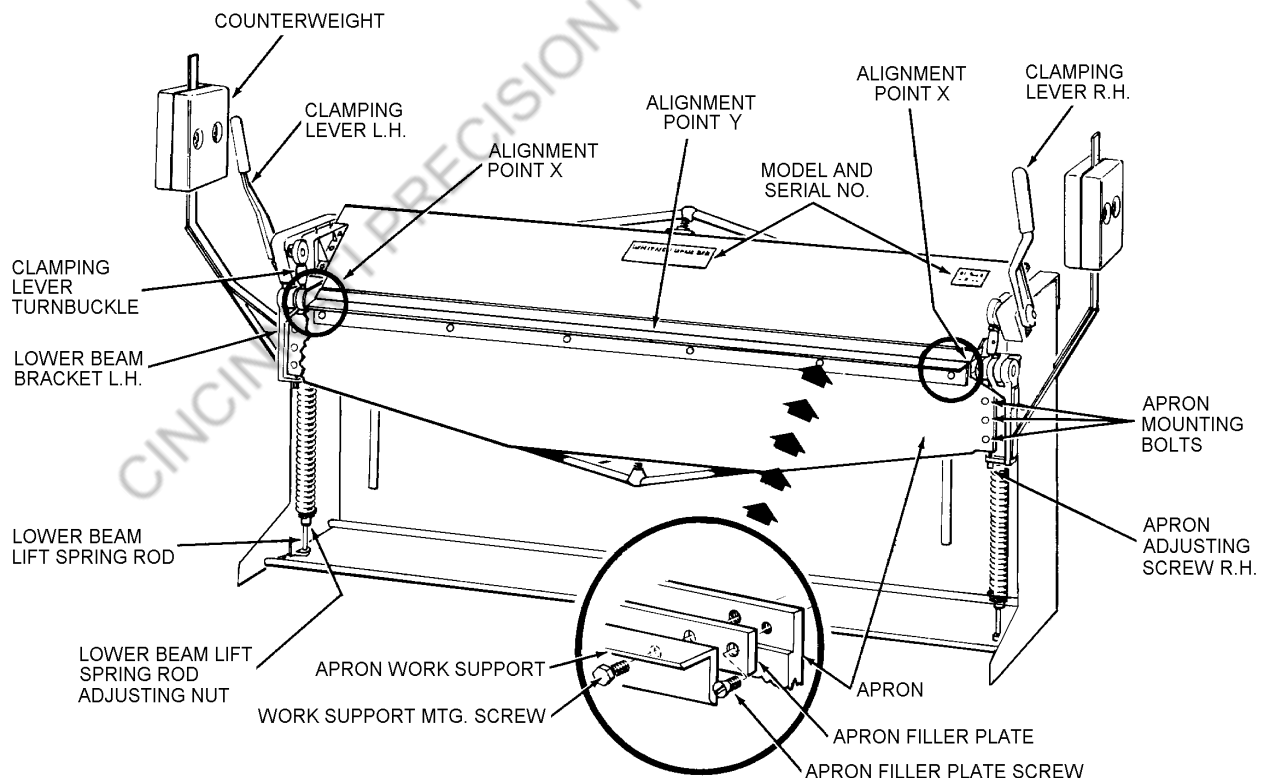
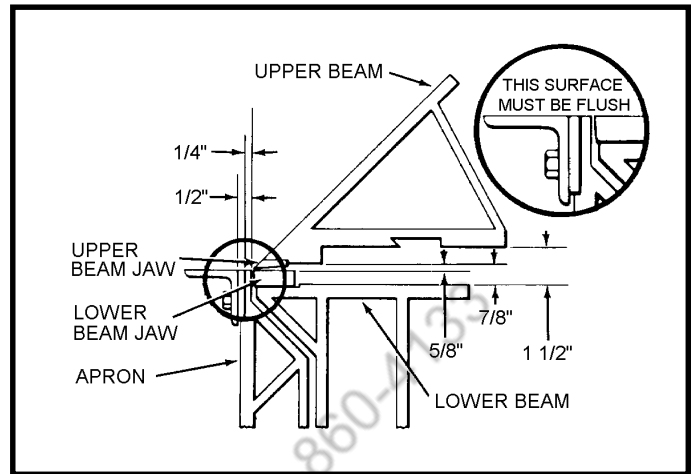
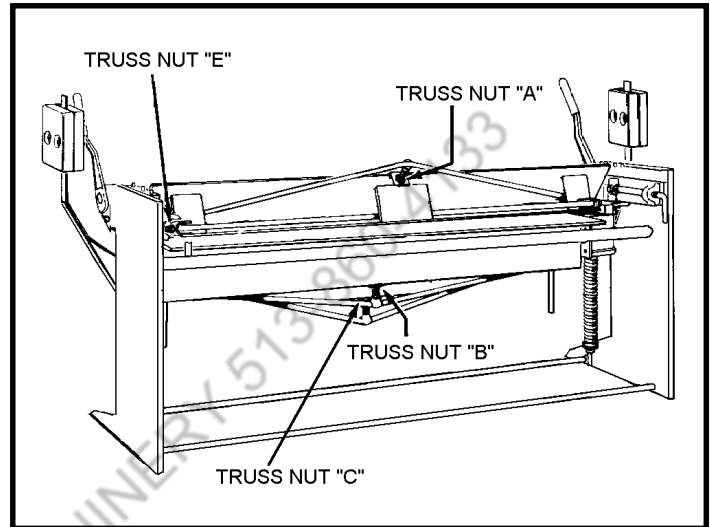

Figure 2. Front View of Brake
Figure 3. Reference Dimensions
Figure 7. Rear View of Brake Showing Tension Adjustment Points
1. Apron angle iron work support (see figure 2) is removed.
(Refer to figure 7 for location of Truss Nuts).
**SOLUTION:** Tighten Truss Nut (B). Level the Apron with the Lower Beam Jaw (see figure 3).
**SOLUTION:** Release some tension on Truss Nut (A) (depending on your brake).
**SOLUTION:** Tighten Truss Nut (A) (depending on your brake).
If 90° sample bend is true at both ends but less than 90° at center of piece, loosen Apron Mounting Bolts (figure 2) and lower the Apron approximately 1/32" by unscrewing the Apron Adjusting Screws. Retighten the Apron Mounting Bolts and tighten Truss Nut (C, figure 7) until both jaws of brake are flush at brake center (see figure 3).
The opening between the brake jaws may be increased to a maximum of 1 5/8". With the Clamping Levers in the unlocked position, turn the Lower Beam Lift Spring Rod Adjusting Nut (figure 2) at each end of brake downward until the desired opening is obtained.
1. Loosen all Truss Nuts (A, B, C, E, figure 7).
2. Tighten Truss Nut (B) until snug. Tighten an additional three complete turns.
3. Check Apron at the alignment points (X, figure 2) to see if it is flush with top of Lower Beam Jaw (see inset, figure 2). Up and down movement of the Apron is controlled by turning the Apron Adjusting Screw (figure 2) at each end of the Apron.
4. Tighten Truss Nut (C, figure 7) until Apron is flush with Lower Beam Jaw at alignment point (Y, figure 2).
5. Tighten Truss Nut (E, figure 7) as tight as possible.
6. Tighten Truss Nut (A) until the Upper Beam Jaw is straight and parallel in relation to the Lower Beam Jaw.
Remove Apron Angle Iron Work Support and Apron Filler Plate (inset, figure 2). This permits 1/4" reverse bends to be made on all brakes except Model Nos. 812, 1012, and 1214 will make a reverse bend of 3/8".
2. Increase the distance between the brake jaws by turning the Lower Beam Lift Spring Rod Adjusting Nut (figure 2) at each end of brake downward as far as it will go.